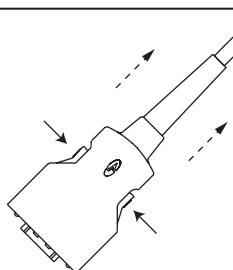

Fig. 4
- Press firmly on the gray buttons and pull to remove the sensor (Fig. 4).